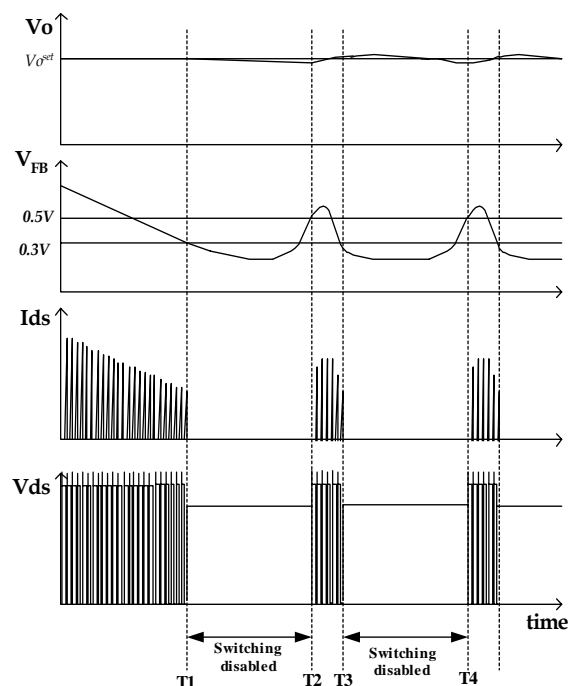

Figure 22. Waveforms of Burst Operation
6. Burst Operation: To minimize power dissipation in standby mode, the FSCM0565R enters into burst mode operation at light load condition. As the load decreases, the feedback voltage decreases. As shown in Figure 22, the device automatically enters into burst mode when the feedback voltage drops below VBL (300mV). At this point switching stops and the output voltages start to drop at a rate dependent on standby current load. This causes the feedback